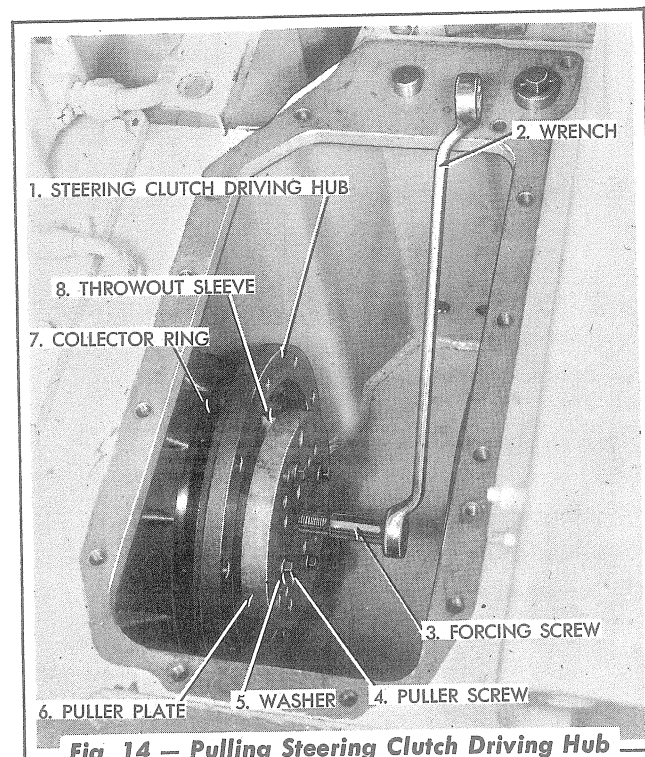

Fig. 14 — Pulling Steering Clutch Driving Hub
2. Unlock the clutch driving hub retaining cap-screw and turn it out approximately $\frac{1}{8}$ ". Using puller tools similar to the ones shown in Fig. 14, pull the steering clutch driving hub loose from the bevel gear shaft. Remove the puller tools. Remove the hub retaining cap-screw, lockwasher, and the hub retaining washer.